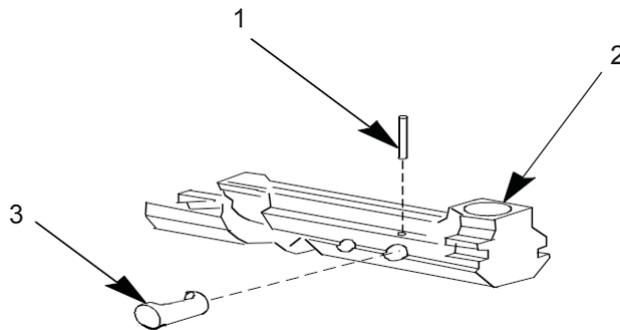

Figure 7. Slide Body, Spring Pin, Pivot Slide.
1. Install pivot slide (Figure 7, Item 3) into slide assembly (Figure 7, Item 2) with flat portion facing spring pin hole. Drive in new spring pin (Figure 7, Item 1) flush with bottom of slide body (Figure 7, Item 2).